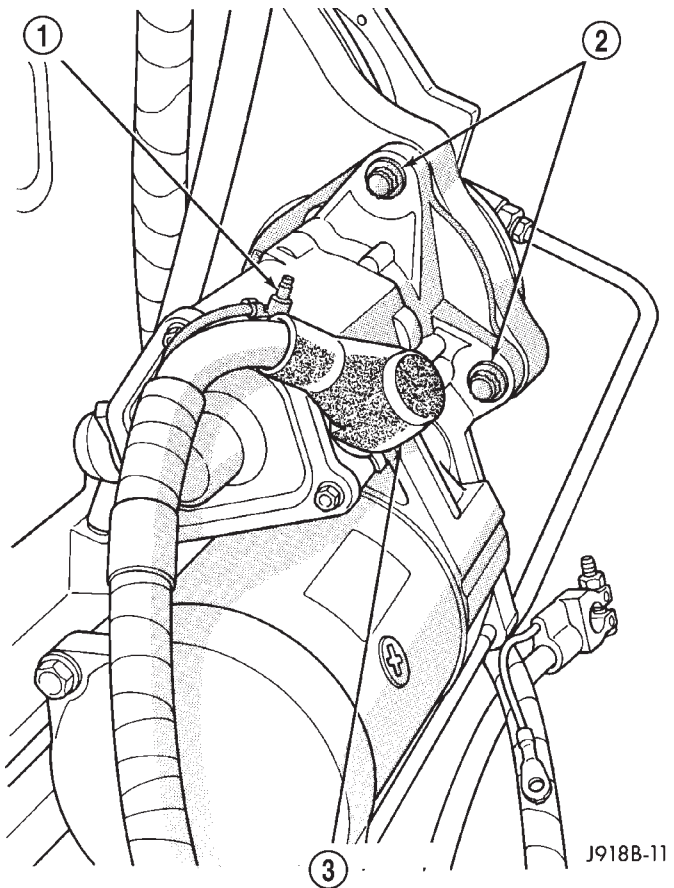
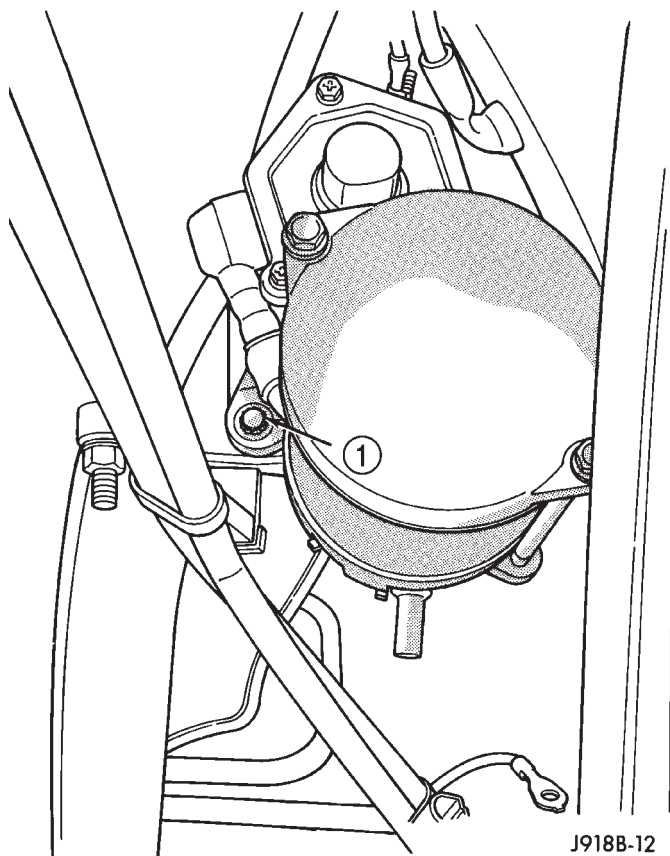

Fig. 10 Starter Motor Wire Harness Remove/Install - 5.9L Diesel Engine
Fig. 11 Starter Motor Remove/Install - 5.9L Diesel Engine
(1) Disconnect and isolate negative cables of both batteries.
(2) Raise and support vehicle.
(3) Pull back protective rubber boot from solenoid battery terminal far enough to access and remove nut securing battery positive cable wire harness connector eyelet to solenoid battery terminal stud (Fig. 10).
(4) Remove nut securing battery positive cable wire harness solenoid connector eyelet to solenoid terminal stud.
(5) Remove battery positive cable wire harness connector eyelets from solenoid terminal studs.
- 2 - MOUNTING BOLTS (3)
(6) While supporting starter motor, remove three bolts securing starter motor to flywheel housing (Fig. 10) and (Fig. 11).
(7) Remove starter motor from engine (certain diesel engines have an aluminum spacer mounted between the starter and the starter mounting flange. Note position and orientation of spacer before removal).